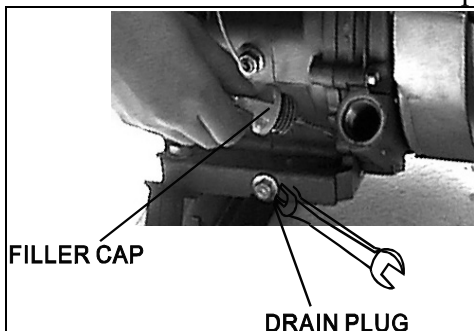

Figure 21- Draining oil
2. Using a 10 mm hex wrench, unscrew the oil drain plug (see figure 21). Allow all the oil to drain from the engine.